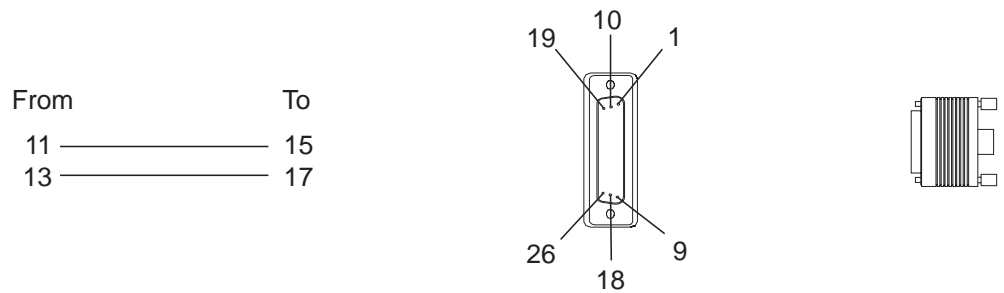

Figure 2-145. LIC567 Wrap Plug Assignment
- Two AWG 24 twisted pairs, 120 ohms (see Figure 2-145 on page 2-106).